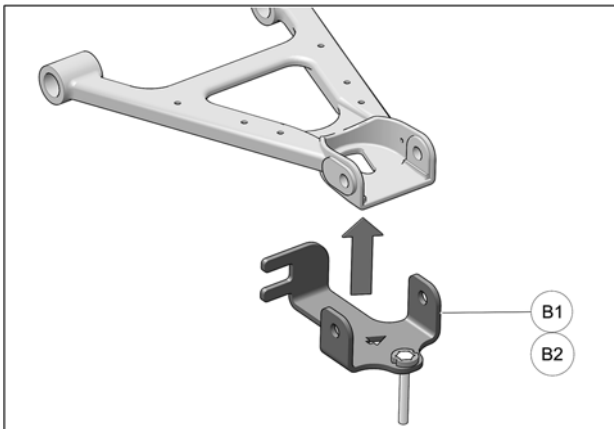
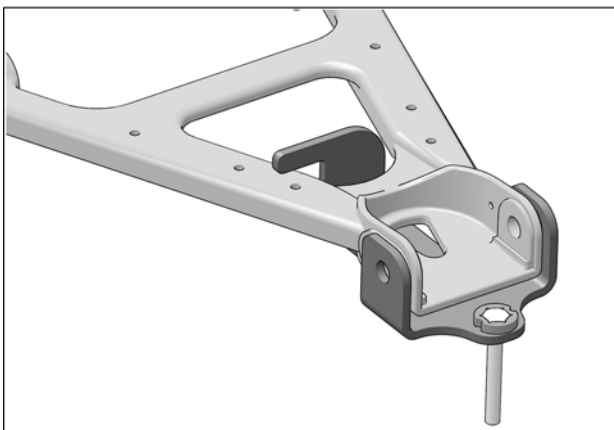

Fig. 6
Fig. 7
6. Install the anchor bracket (B1-B2) under the suspension arm. Make sure to hook the bracket's C-shaped back end on the a-arm. See Fig. 6 and Fig. 7